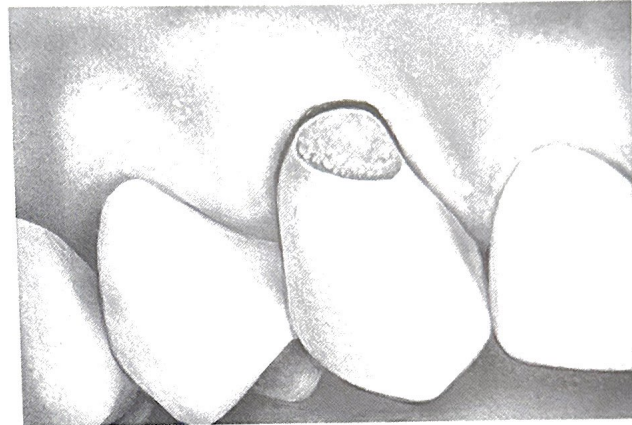

Figure 5.
4. With the caries exposed (Figure 5), restorative procedures can begin immediately.